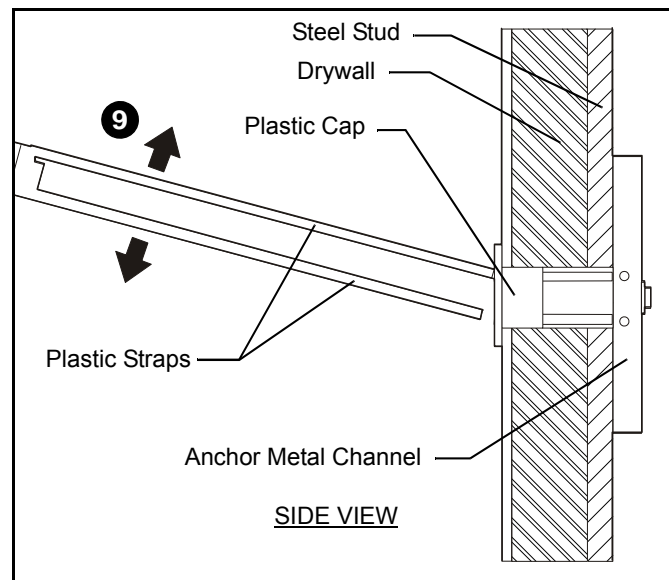

Figure 5
9. Snap off plastic straps on anchor at wall by pushing side to side, snapping off straps level with flange of plastic cap. (See Figure 5)